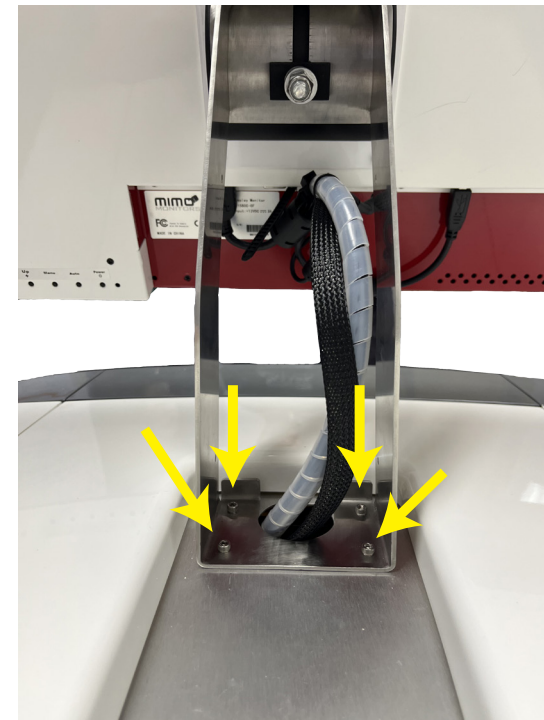

Fig. 2-4: Monitor mount on the chassis. Mounting screws are highlighted by the yellow circles.
- Carefully hold the monitor over the top of the chassis (see Fig. 2-4). Line up the 4 mounting holes of the monitor base with the 4 holes of the chassis.
- Using the hex tool, secure the insert using the 4 screws (Fig. 2-4).